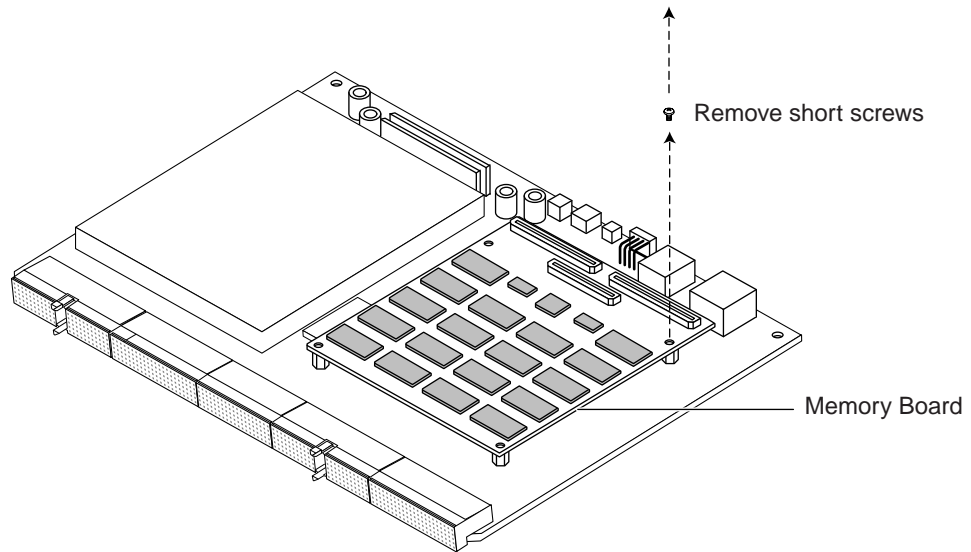

FIGURE 6 Removing the Mounting Screws from the Currently Installed Memory Board
7. Using a Phillips No.1 screwdriver, remove the screws and washers from the base memory board (see FIGURE 6).